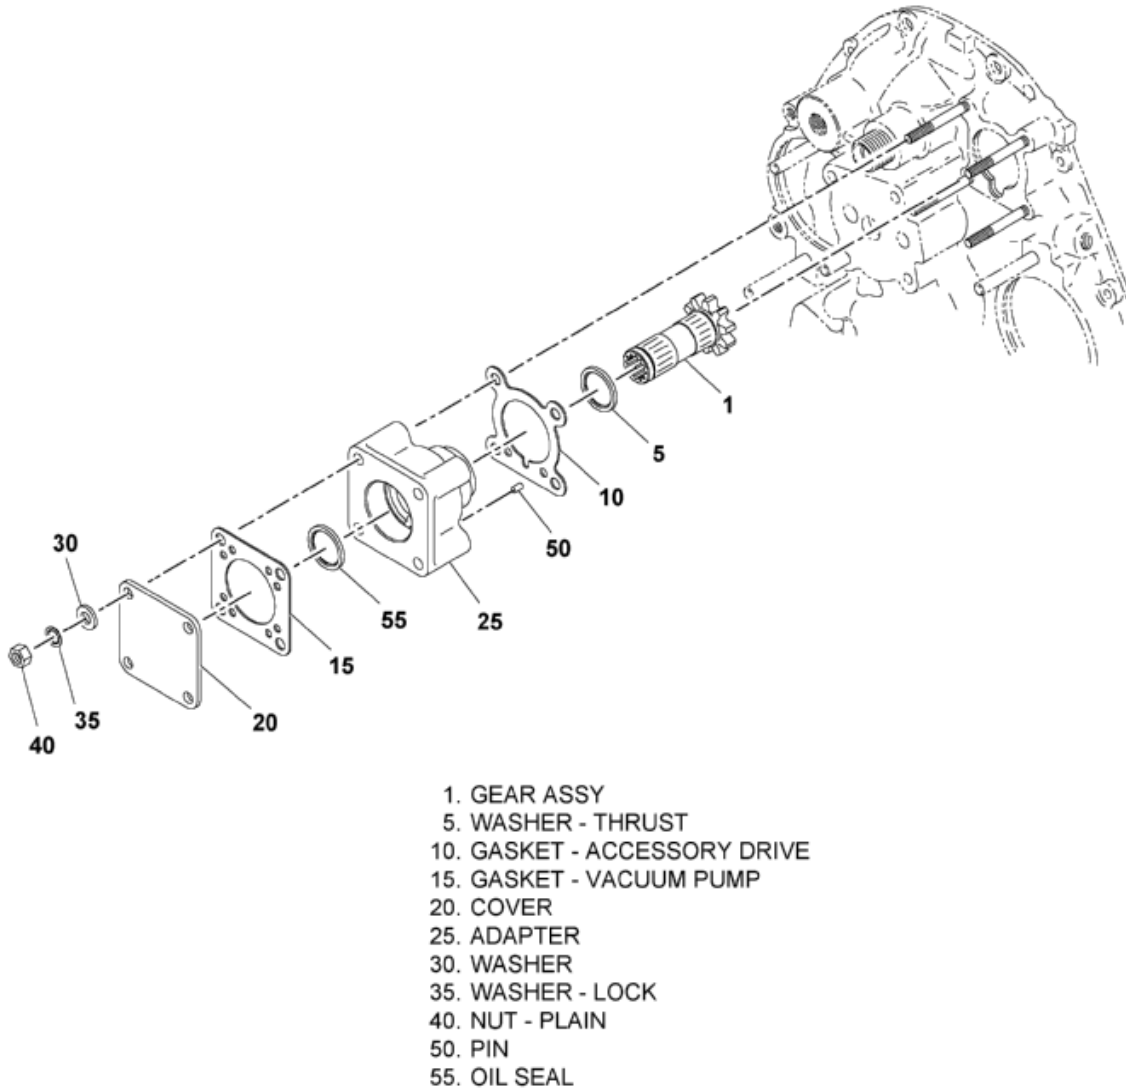

Figure 72-00-09.31 • Vacuum Pump Drive
- (2) Apply pre-lube oil to threads of 90° elbow (25, Figure 72-00-09.32) and o-ring (20). Install into fuel pump (5) outlet port. Position elbow (25) to point straight back and torque lock nut per the Table of Limits Appendix C.
- (3) Apply pre-lube oil to the threads of the 45° elbow (30) and o-ring (20). Install into the fuel pump (5) inlet port. Position the elbow (30) to point up and torque the lock nut per Table of Limits Appendix C.
- (4) Rotate the engine to provide least amount of fuel pump plunger extension.
- (5) Apply grease to the fuel pump arm and plunger where they will make contact on the wear surfaces.
- (6) Install the fuel pump (5) with the gasket (1), drilled sockethead screws(15), and flat washers (10).